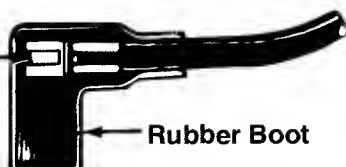

FIGURE 5.
1. Attach spark plug wire to spark plug. Make certain the metal loop on the end of the spark plug wire (inside the rubber boot) is fastened securely over the metal tip on the spark plug. See figure 5.